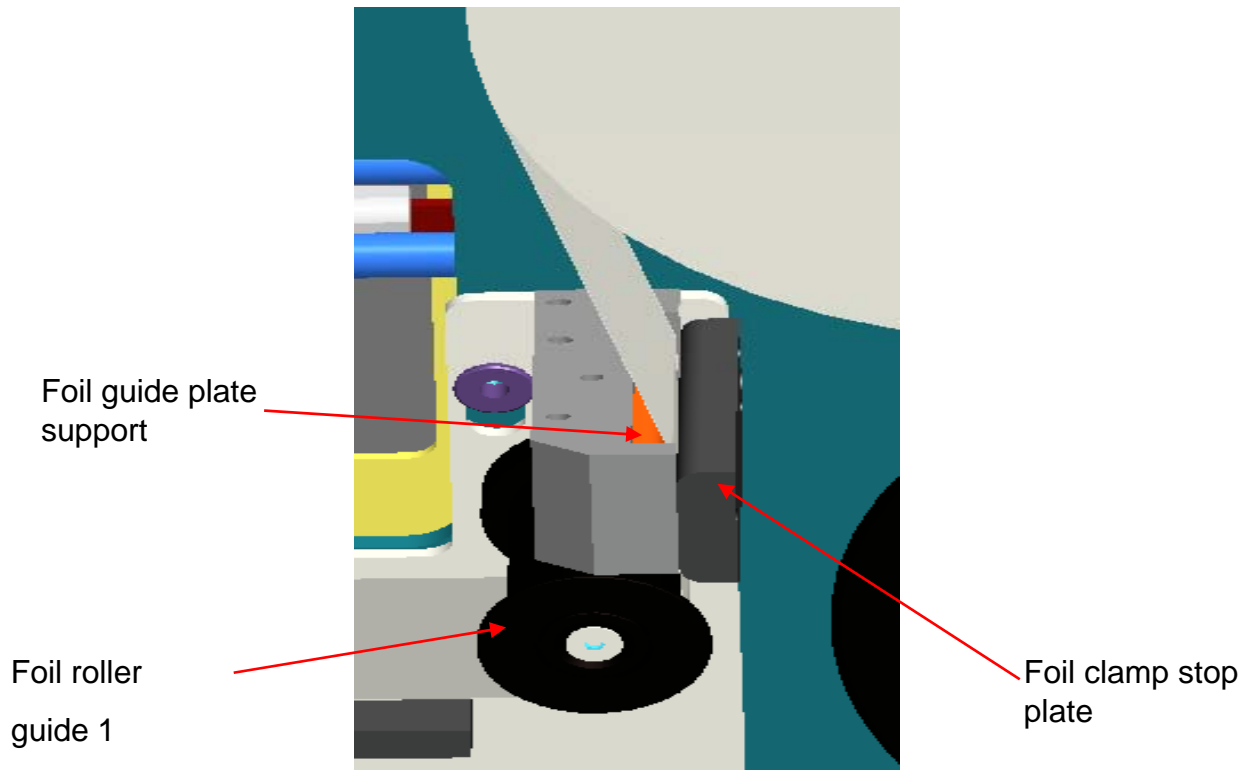

Figure 2
3) Now begin to pull the foil through the system. Start by pulling the backing paper you prepared in the previous step through the foil clutch mechanism, shown in figure 2. Ensure that the backing paper is pulled in between the foil guide plate support and the foil clamp stop plate.
4) Now guide the foil around the roller underneath the foil clamp mechanism, as shown in figure 2.